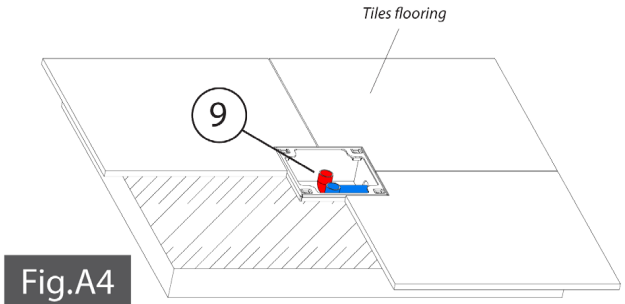
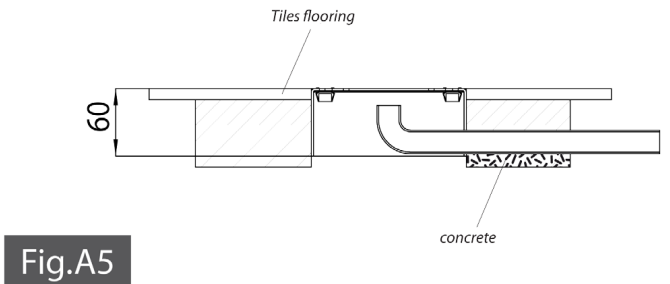

Fig.A4
Fig.A5
- Caution! Complete the flooring (Figure A4), making sure that the upper edge of the concealed box (9), is perfectly aligned to the floor level (Figure A5).
- Preassemble the straight pipe (2) and the base (3) pulling the hot and cold water inlet hoses (10) out from the bottom of base (3). (Figure B)
- Caution : Assemble the base (3) with the vertical tube (2) according to the desired shower jet direction (Figure B). Remind that the M4 screw hole (a) is opposite to shower head direction.
- Connect the two hot and cold inlet flexible hoses (10) to corresponding hot and cold water pipes in the concealed box (9). (Figure C).
- Secure the base (3) with the M8x70 mm screws (4) (Figure C). Pay attention that the M4 screw (a) is opposite to the desired shower head position
- Assemble the curved shower pipe (1) with straight pipe (2) pulling the supply flexible hose (5) out from upper curved pipe. Secure the two pipes at their connecting point with screws (6), (Figure D)
- Screw supply flexible hose nut (5) to the threaded nut (8) and secure it to shower pipe outlet (1) with screws (6) (Figure D).
- Align the straight and curved tubes (1) & (2) (an adjustment range $\pm 5^\circ$ is allowed) and tighten the M4 adjusting screws (11) (Figure E).